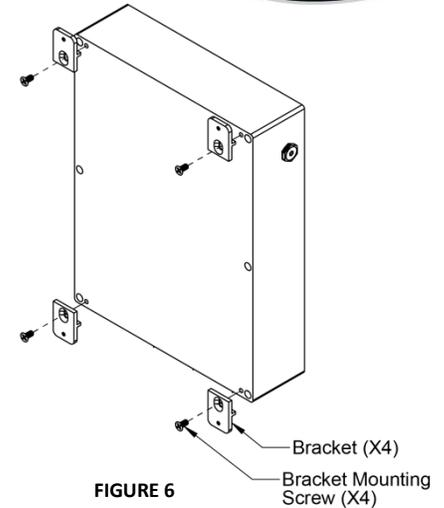

FIGURE 6
4. Install the 4 brackets to the back surface of the unit using the 4 thread-locking machine screws (blunt end). (Figure 6)